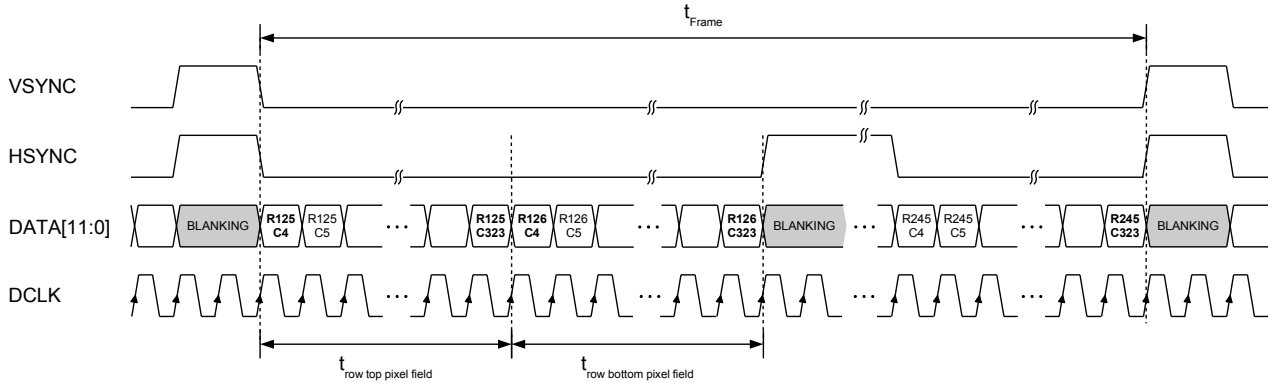

Figure 28: 12-bit mode data readout
- 12-bit mode: Transfers 12 bit pixel data with 1x DCLK (default). Refer to Figure 28.